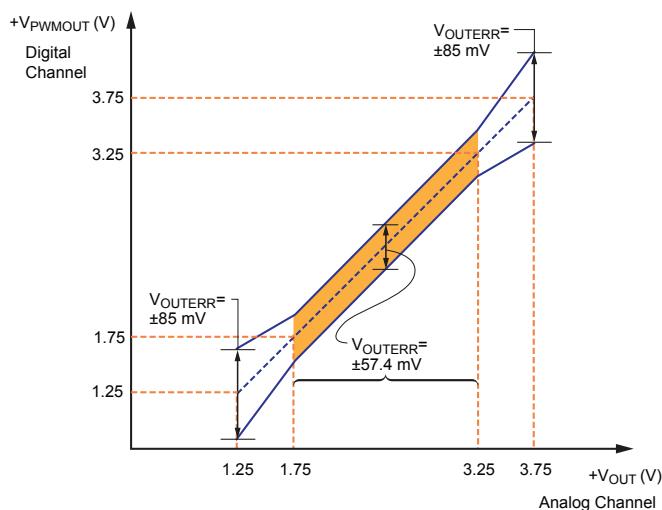

Figure 6: Definition of PWM to Analog Output Mismatch,  $V_{OUTERR}$
$D_{(Q)}$  is the quiescent PWM signal with no input field ( $B = 0$  G), and  $D_{(field)}$  is the PWM signal in response to the input magnetic field. In other words, the product of PWM sensitivity (%D/G) and input magnetic field (G). (See Figure 6.)